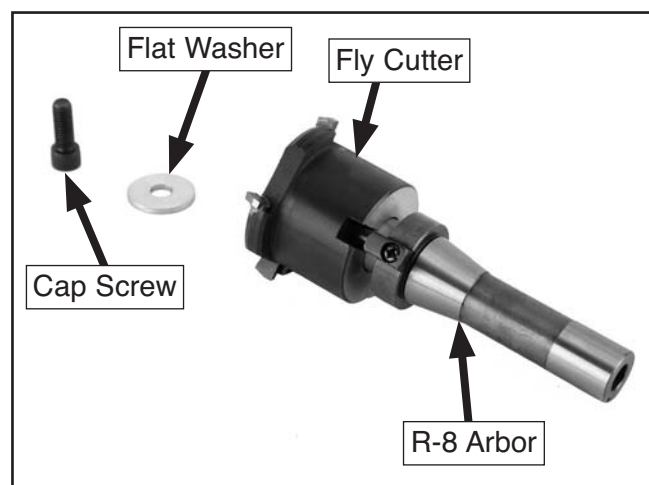

Figure 25. Fly cutter.
3. Fit the fly cutter onto the stub end of the arbor so the keys on the arbor and the keyways on the fly cutter come together (**Figure 25**).